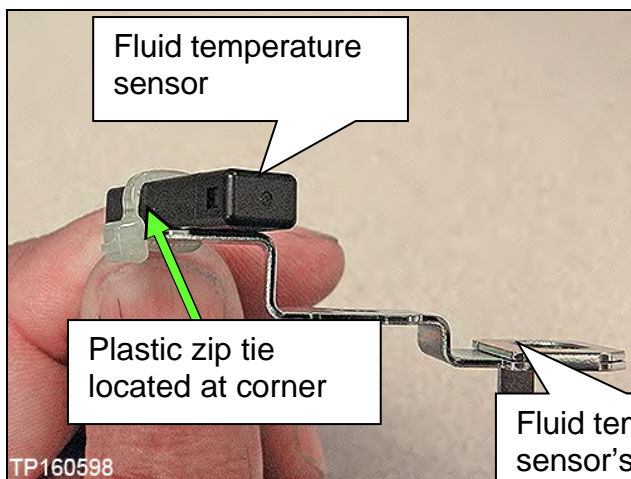
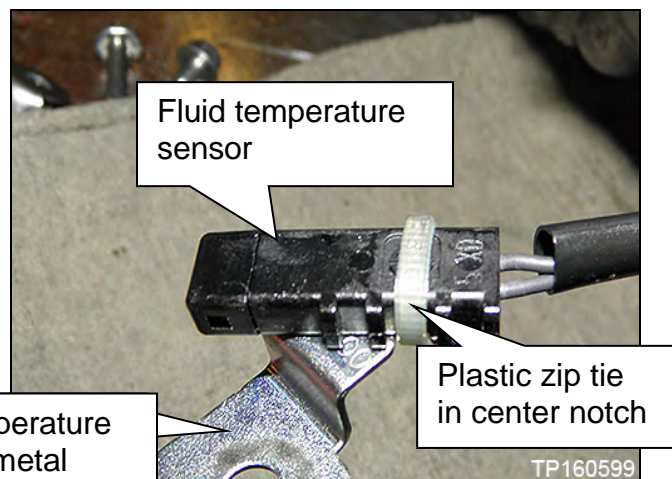

Figure 6J
Figure 7J
- a. Cut the old plastic zip tie with an appropriate tool to remove the fluid temperature sensor's metal bracket from the terminal harness assembly (Figure 6J and Figure 7J).
- Locate the plastic zip tie at the center notch of three notches on the fluid temperature sensor (Figure 7J).
- Tighten the plastic zip tie so that it is oriented as shown in Figure 6J.